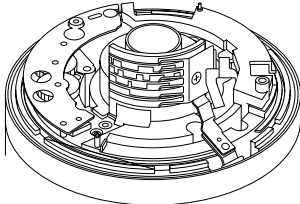

Fig.4-7-1
- 1) Set the lens to be checked to the condition as shown in Fig. 4-7-1 by disassembling or assembling.